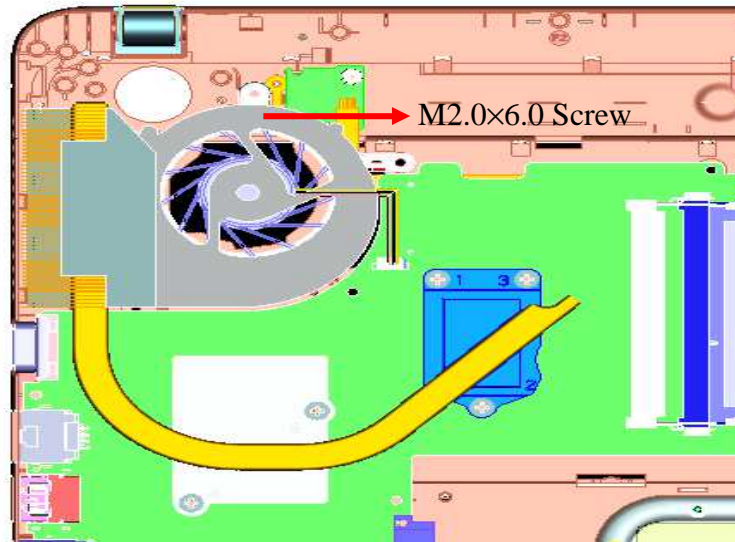

Figure 4-9-4 Install the thermal module
1. Put the thermal module on the system board at right position. (See Figure 4-9-4)